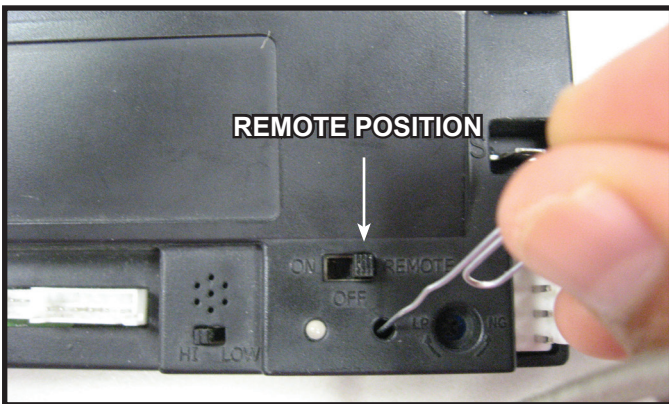

Figure 5. Programming RC300
- Verify the ON/OFF/REMOTE switch is in the REMOTE position. Green LED light will blink three times and wall switch will beep once 5 seconds later when ready. See Figure 5.
- Using a small item (such as a paper clip) press and release the LEARN button located near the ON/OFF/REMOTE switch. See Figure 5.